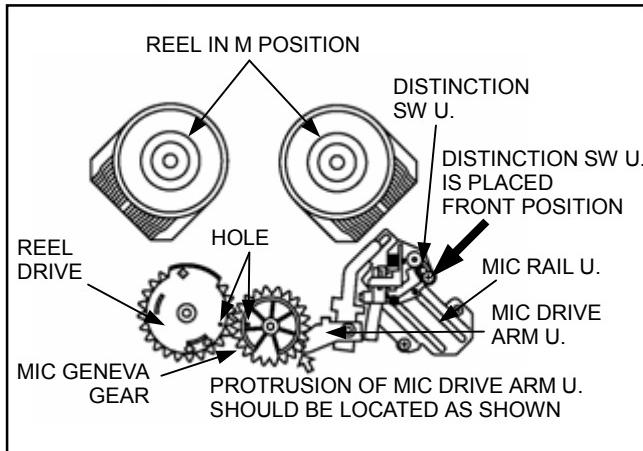

Figure 5-26-3
4. Place the REC Inhibit SW in front position on Distinction SW Unit by rotation of MIC Geneva Gear, and then MIC Geneva Gear should be positioned as shown in Figure 5-26-3.
**Protrusion of MIC DRIVE Arm Unit is positioned as shown in Figure 5-26-3.**
5. Install the Reel Drive Cam Gear and the hole of Reel Drive Cam Gear should match with the hole of MIC Geneva Gear as shown in Figure 5-26-3.
- 3) Protrusion of MIC Drive Arm Unit is positioned as shown in Figure 5-26-3.